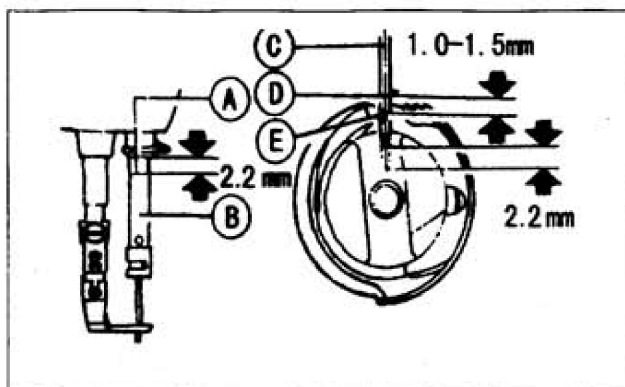

Fig. 19
Timing of needle motion to rotating hook motion has a great effect on sewing performance. The standard hook point timing (See Fig.19) is to align Hook Point (D) and Needle Centerline (C) when Needle Bar (B) is lifted by 2.2mm from the lower end of its stroke. Besides, Hook Point (D) should be 1.0-1.5mm above the upper end of needle eye (E).